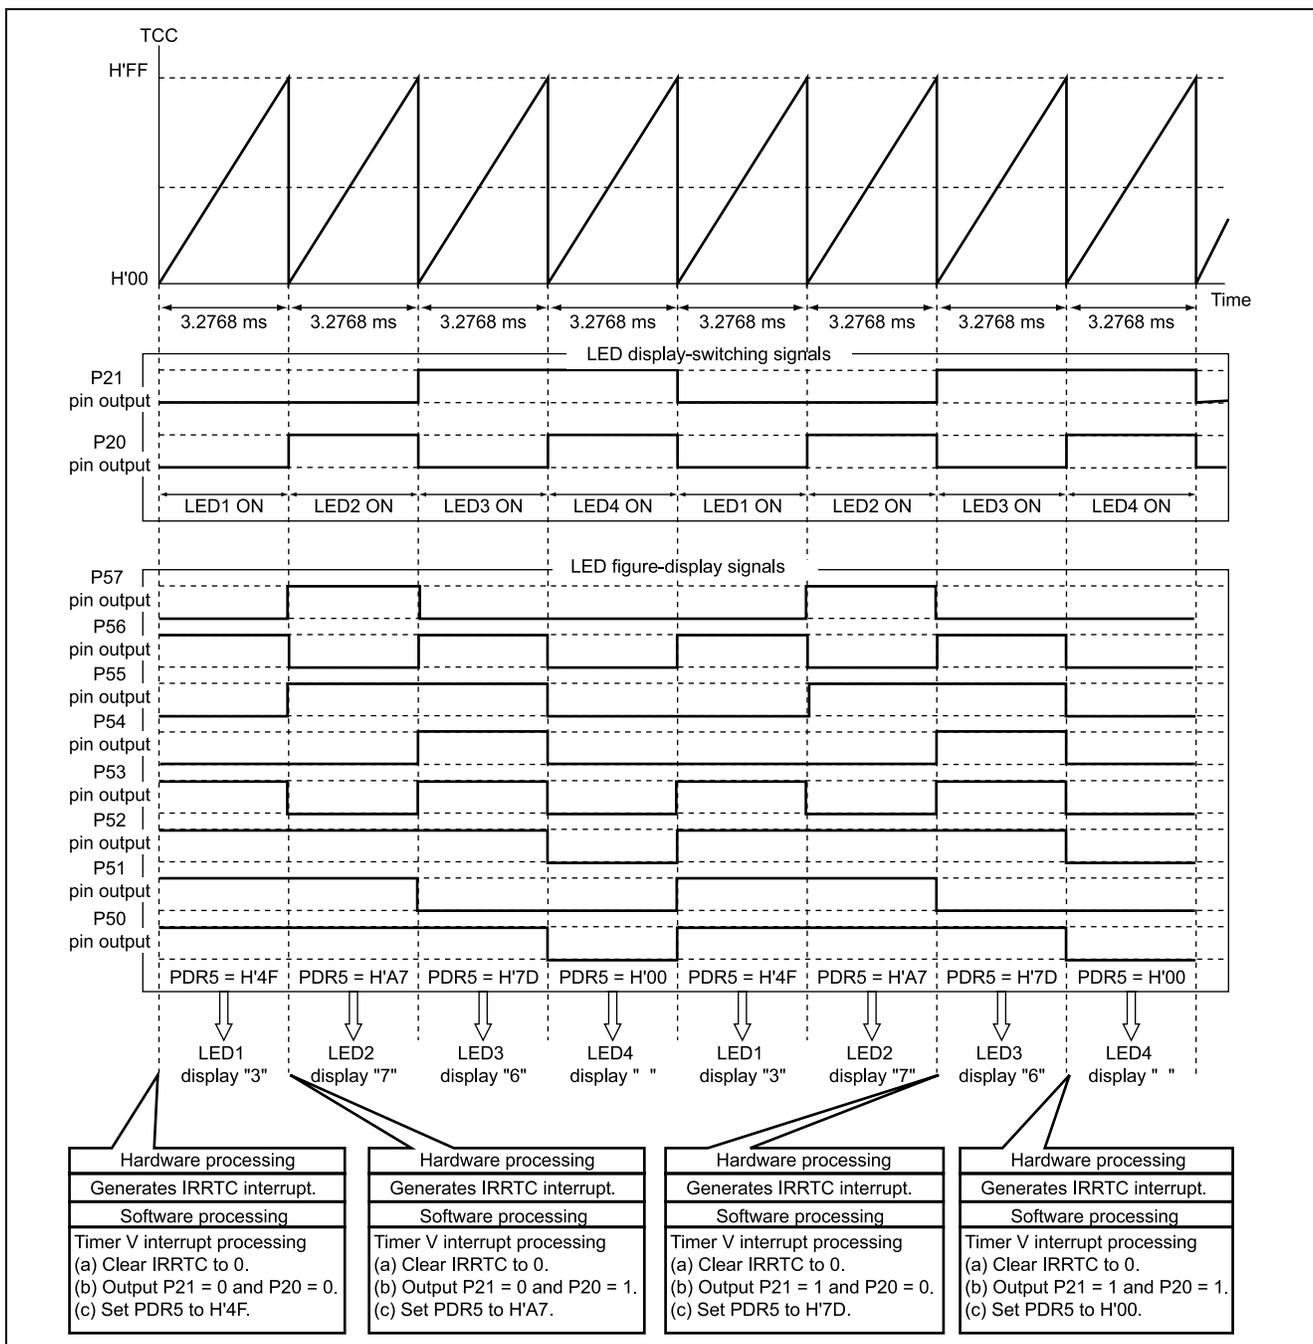

Figure 3.2 Principle of Operation for the 7-Segment LED Display Control
2. The principle applied in controlling the 7-segment displays is explained below. Figure 3.2 depicts the situation where "67.3" is being displayed on LED4 to LED1. As the figure shows, the next display in sequence of LED1 to LED4 is lit up each time a timer-V overflow period elapses, creating a dynamic display on the 7-segment LED.